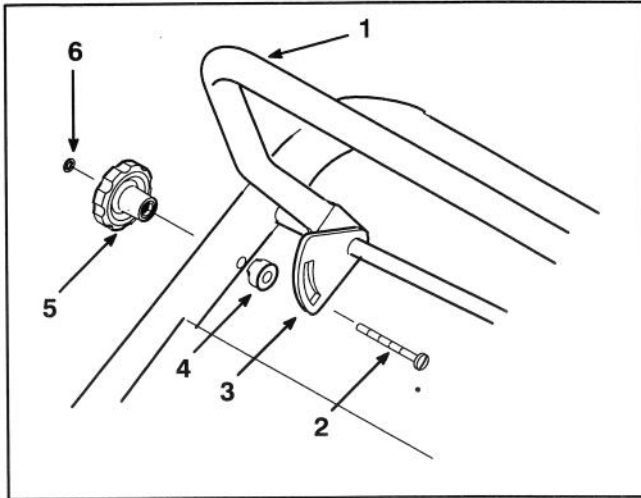

Figure 5
2. Loosely secure handle assembly bracket to upper handle with a carriage bolt, latch spacer, handle knob and bolt retainer as shown in fig. 5.